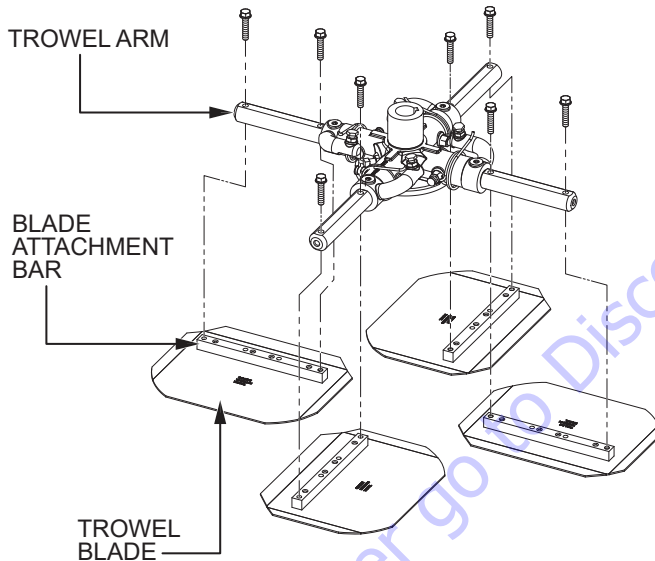

Figure 68. Blade Removal
2. Remove the bolts and lock washers from each of the trowel arms, then remove the blades as shown in Figure 68.